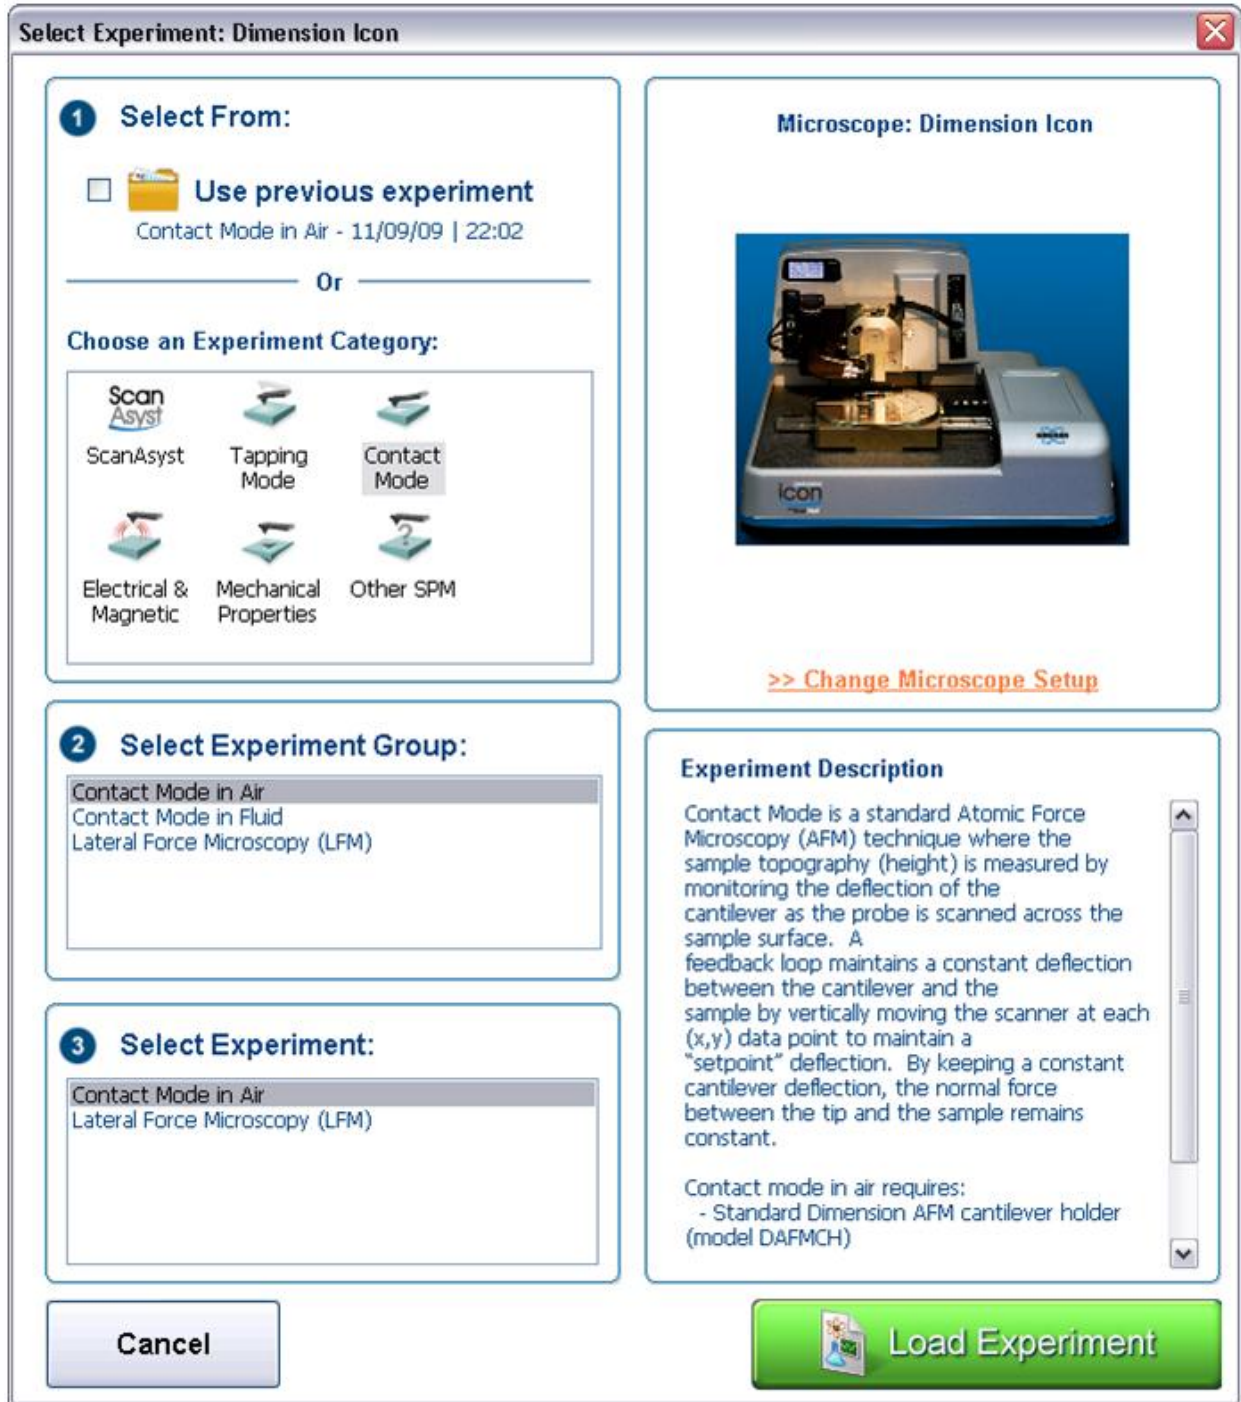

Figure 2. Experiment window showing different modes of AFM (taken from Bruker manual)
- Double click the **NanoScope** icon  on the desktop and Select **Contact Mode** (Figure 2)